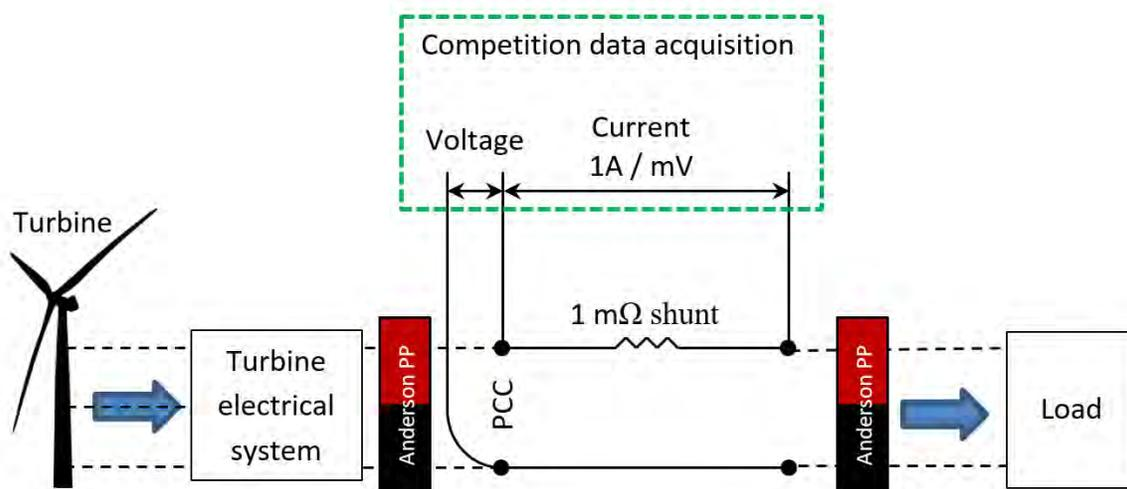

Figure 11. Load, turbine, and point of common coupling arrangement. Image created by Lee Jay Fingersh, NREL
Figure 11 illustrates the electrical configuration of the prototype turbine, competition data acquisition system, and PCC, which is the point of electrical measurement for the competition. Electrical requirements are as follows:
- The turbine electronics must be in separate enclosure(s) from the load to clearly differentiate load and control during inspection by judges, as shown in Figure 11. The turbine nacelle may also contain turbine electronics, if desired.